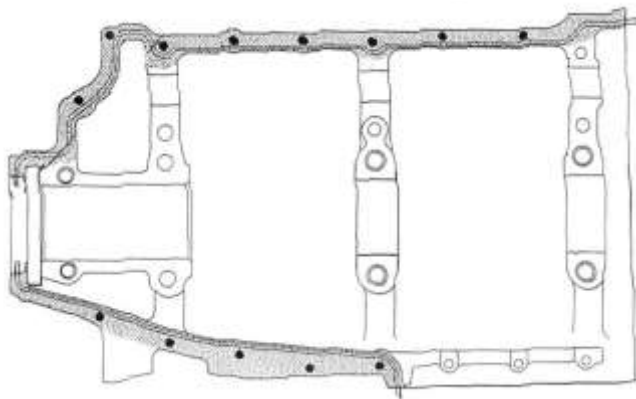

Figure 82
- (1) Apply a thin layer of non-hardening gasket material such as POB #4 Perfect Seal gasket compound or equivalent to the outside mating surface of only one crankcase half (darker area shown in Figure 82.)
- (2) Measure and cut a total of four continuous lengths of "00" silk threads (four for only one crankcase half). Two of the lengths will extend along the entire length of the top of the crankcase flange as shown in Figure 82, and two silk thread lengths will be shorter to cover the distance shown on the bottom flange of the same crankcase half. Do not apply silk thread pairs to both crankcase halves.
⚠ CAUTION TO ENSURE CORRECT SEALING, MAKE SURE THE SILK THREADS RUN THE LENGTH, AS A CONTINUOUS PIECE, OF THE INSIDE OF THE CRANKCASE FLANGE (FIGURE 82) AND THERE ARE NO BREAKS IN THE ANY OF THE THREADS. BREAKS IN THE SILK THREAD CAN CAUSE THE CRANKCASE TO LEAK. MAKE SURE THE THREADS DO NOT CROSS OVER OR LAY OVER EACH OTHER (FIGURE 82) OR COVER A HOLE IN THE CRANKCASE FLANGE.
- (3) Press two lengths of "00" silk threads in the gasket compound on the top and bottom flange sides (of the crankcase half) (Figure 82) firmly in the gasket compound where both silk threads are oriented in the area between the bolt holes and the inside flange edge of the crankcase half (approximately between 0.020 to 0.040 in. (0.508 to 1.106 mm) apart as shown in Figure 83. Make sure that the silk thread lengths do not touch or cross over one another or cover a bolt hole.